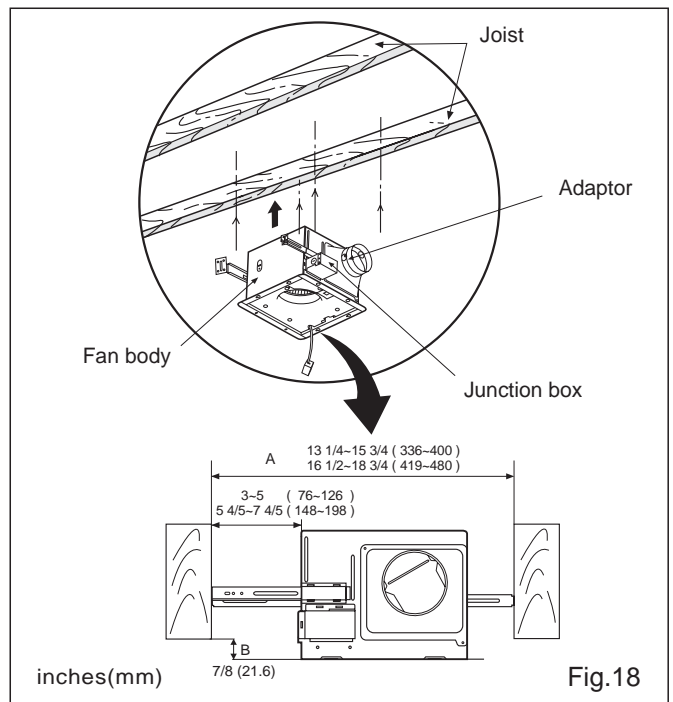

Fig.18
3. Insert the fan body between joists. Make sure the fan body is level and square (perpendicular) with the joists. (Fig.18) Keep the distance B (7/8 inch, 21.6mm) for the thickness of ceiling board.